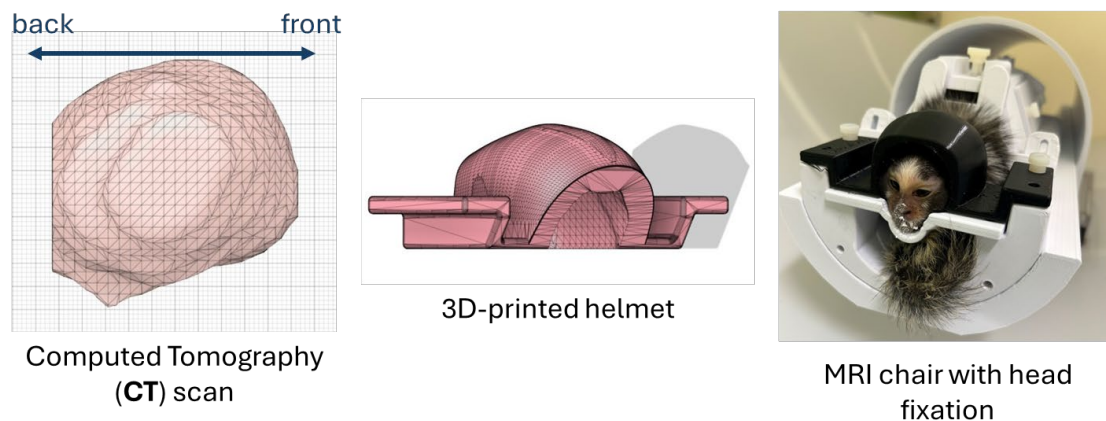

Figure 1. Schematic and example design of the 3D-printed helmet.
An individualized CT scan is acquired to localize the injection site of marmosets. Based on the CT scan, we model the head structure of the marmoset and specifically design an individualized 3D-printed helmet based on their head shape (**Figure 1**). This aims to ensure a fit between the helmet and marmoset head, such that the head motion can be maximally reduced while mounting the helmet on the MRI chair.
5. Fix the marmoset's head post into the appropriate clamp for the first time (**Figure 1, right panel**).